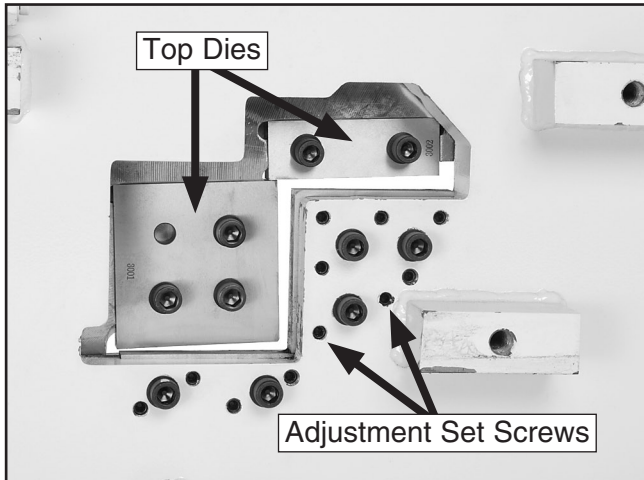

Figure 61. Angle iron shearing station dies (front view)
- Use the foot actuator to pivot the beam so that the cap screws of the top dies are accessible, as shown in **Figure 61**, then release the pedal actuator to hold it in that position.